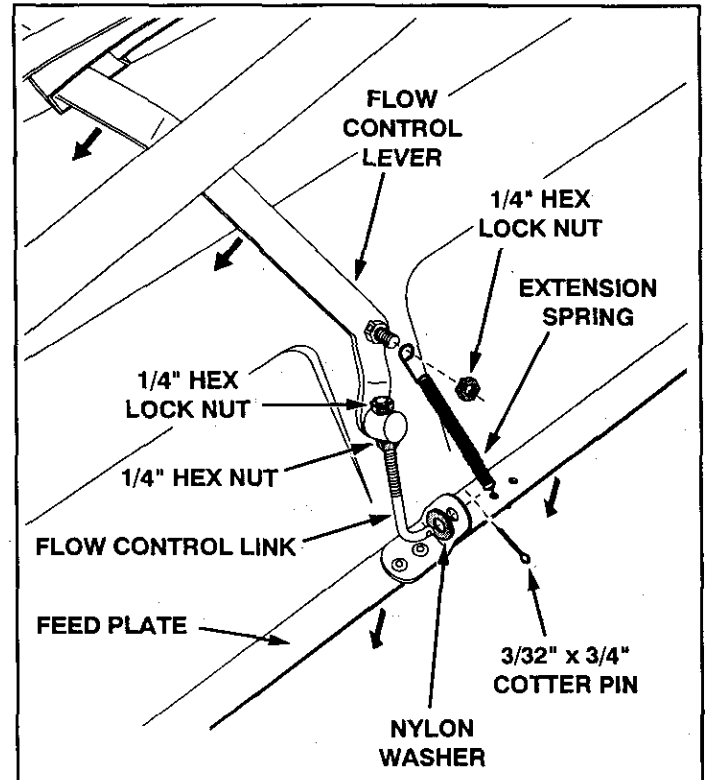

FIGURE 10
- Place a nylon washer onto the bent end of the flow control link and then insert the end of the link into the hole in the feed plate bracket. Secure it with a 3/32" x 3/4" cotter pin. See figure 10.
- Adjust the 1/4" hex lock nut to make it flush with the end of the flow control link, then screw the 1/4" plain hex nut until it is tightened securely against the bottom of the ferrule. See figure 10.
- Hook the open end of the spring into the hole in the feed plate that is nearest the bracket. Place the closed end of the spring onto the end of the hex bolt assembled through the flow control lever. Secure it with a 1/4" hex lock nut. See figure 10.